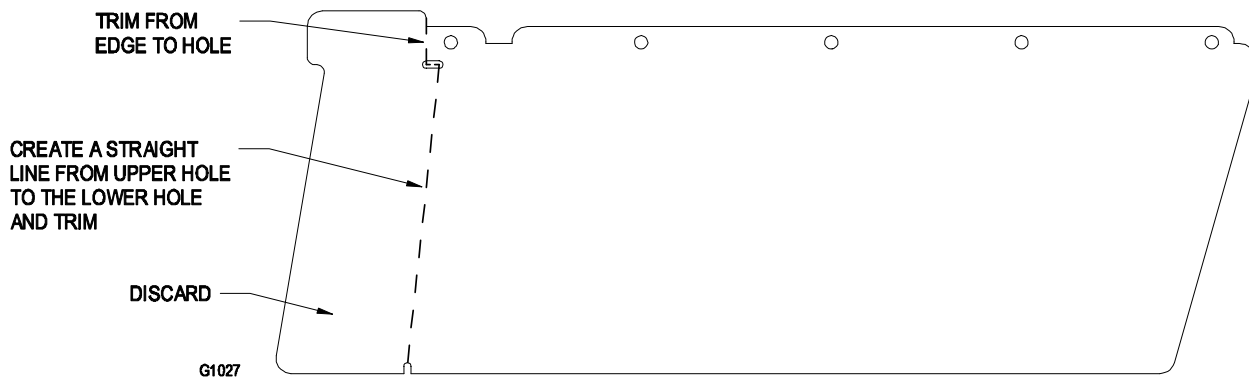

FIGURE 9
3.2.10 For Triton (series 5) decks 46", 50", & 56" and UltraCut (series 4) decks 52" & 60", cut the discharge gate as shown in Figure 9.